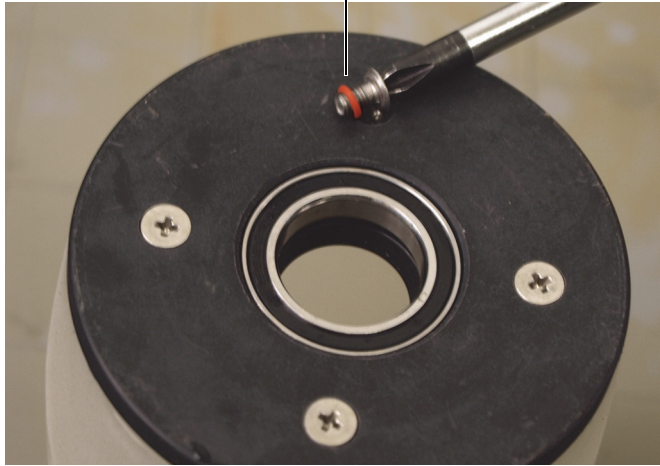

Figure 6-29 Installing the plain flange's external retaining screws
- b) Install the four screws and their gaskets in the plain flange, and then, using a cross pattern, tighten the screws, first lightly, and then tightly (Figure 6-29 on page 108).